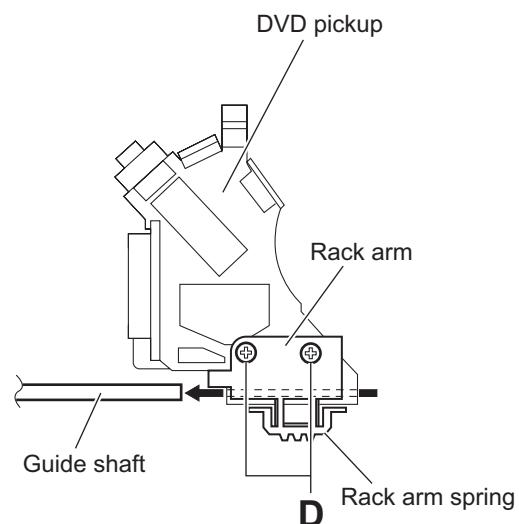

Fig.6
- (7) From the bottom side of the DVD pickup, remove the two screws **D** attaching the rack arm and rack arm spring. (See Fig.6.)
- (8) Pull the guide shaft out of the DVD pickup. (See Fig.6.)
- (1) Attach the guide shaft, rack arm and rack arm spring to the DVD pickup. (See Fig.6.)